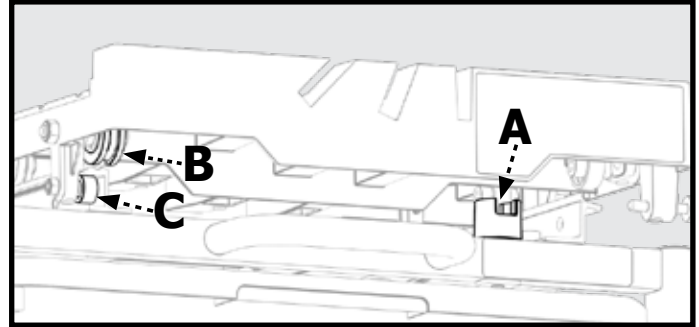

Figure 8
1. Check to make sure the slotted table lock is loosened in the open position, as shown in Figure 8, so that the groove is parallel to the direction of movement for the table.
2. Position the Worktable (4) so that the left bearings align as shown in Figure 8. The Larger Rollers (B) should be guided on the top of the rails, as the Smaller Rollers (C) should be guided beneath the rails.